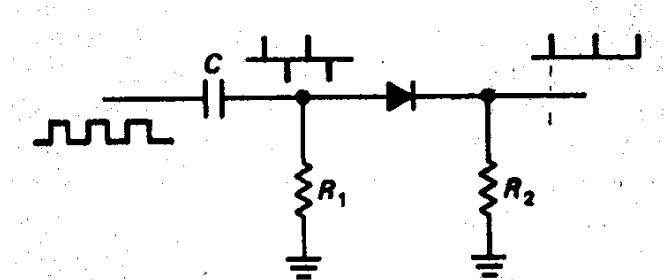

Fig.10. A series of pulses' rectifier.
- For instance, we might want to have a series of pulses corresponding to the rising edge of a square wave (see Fig. 10, left hand side and right hand side of the capacitor C).